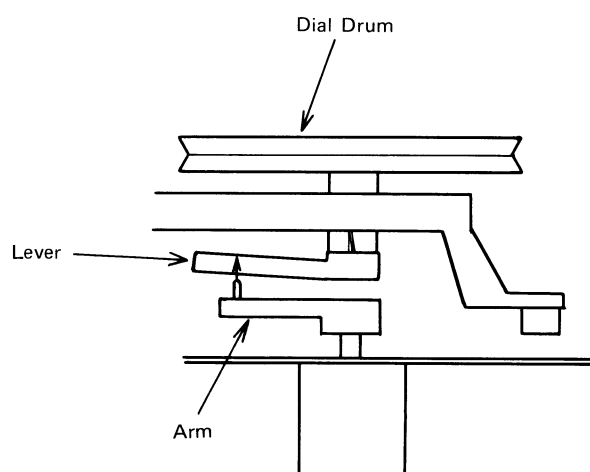

Fig. 17
4. Engage the projection of arm which is mounted on the shaft of variable capacitor with the slot of lever which is positioned opposite side of dial drum as shown in Fig. 17.